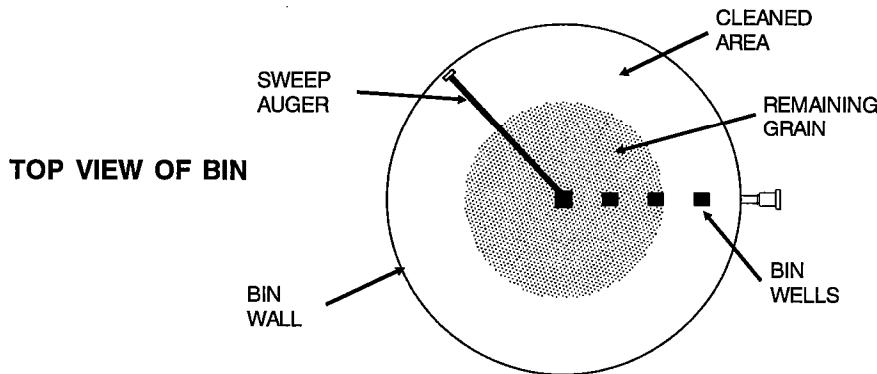

FIG. 6
1. Clean (scoop and sweep by hand) the outer area of the floor into a circular pile towards the center of the bin. See Fig. 6.